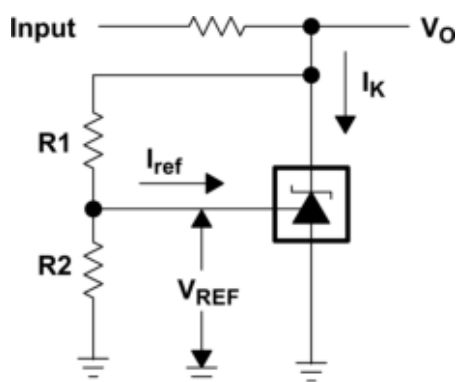

Figure 6-2. Test Circuit for $v_{KA} > V_{REF}$, $V_O = V_{KA} = V_{REF} \times (1 + R1/R2) + I_{ref} \times R1$
(3) The dynamic impedance is defined as $|z_{KA}| = \frac{\Delta V_{KA}}{\Delta I_K}$. When the device is operating with two external resistors (see Figure 6-2), the
- (3) Full temperature ranges are -40°C to 125°C for TLV431Q, -40°C to 85°C for TLV431I, and 0°C to 70°C for TLV431C.
- (4) dynamic impedance is defined as $|z_{KA}| = \frac{\Delta V_{KA}}{\Delta I_K}$. When the device is operating with two external resistors (see Figure 6-2), the total